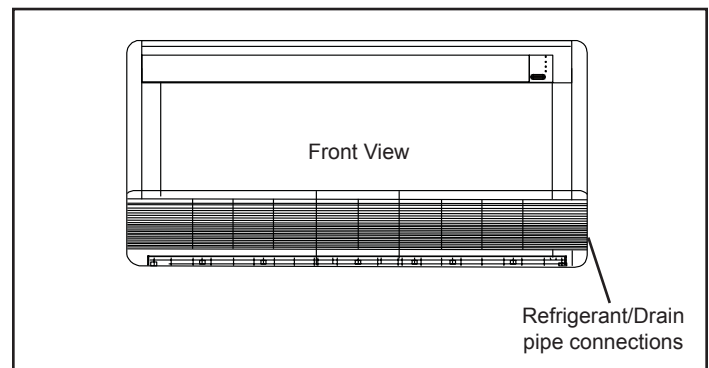

Figure 1. Floor/Wall Applications
- The unit should be installed high enough for a gravity drain to function properly. If necessary, a field provided external pump can be installed at the unit. See figure 1 for pipe connection locations.